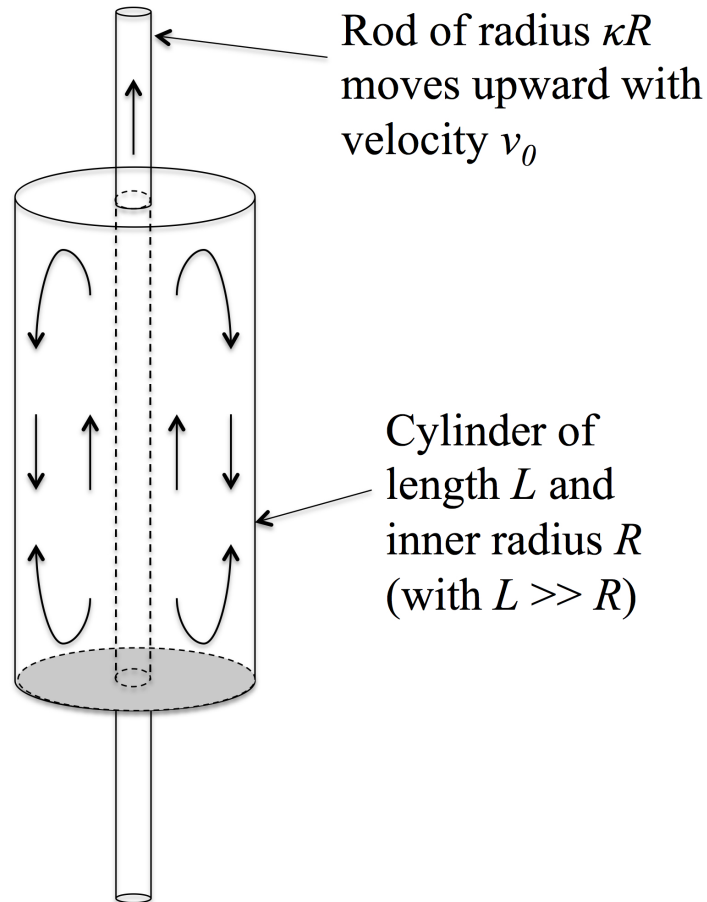

Figure 1: Circulating flow produced by an axially moving rod in a closed annular region.
1. A rod of radius κR ($0 < \kappa < 1$) moves upward with a constant velocity v_0 , through a cylindrical container of inner radius R containing a Newtonian liquid of density ρ and viscosity μ , as shown in Fig. 1 below. The liquid circulates in the cylinder, moving upward along the moving central rod and moving downward along the fixed container wall. Flows similar to this occur in the seals of some reciprocating machinery—for example, in the annular space between piston rings.